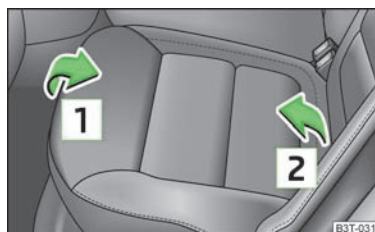

Fig. 62 Folding the seat cushion forwards
- Pull up the seat cushion in the direction of the arrow **1** » Fig. 62 and fold forwards in the direction of the arrow **2**.